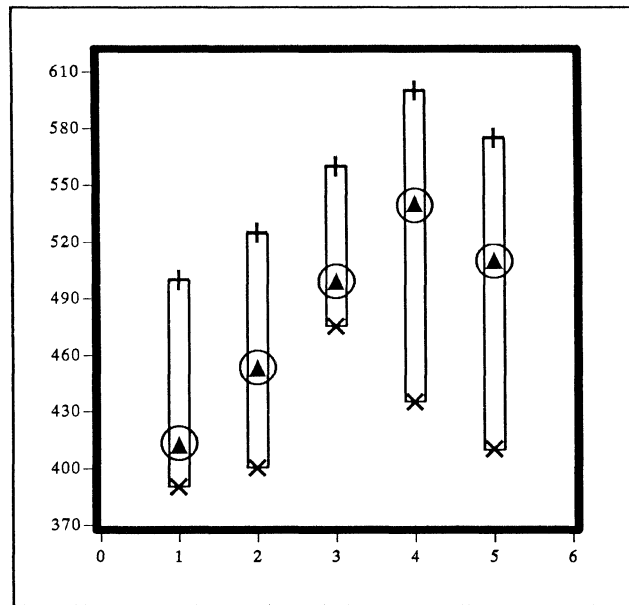

Figure 29-8. Chart with overlaid diagramming objects before they have been filled with black
- ✓ **Create** a **Box** inside the chart and **Size** it to form a thin, rectangular bar that runs vertically and covers the area from the center of the high point (+) to the center of the low point (x) on the vertical coordinate 1 (see Figure 29-8). **Duplicate** this box, and **Move** it and **Size** it to cover the high and low points at each of the four remaining vertical coordinates.